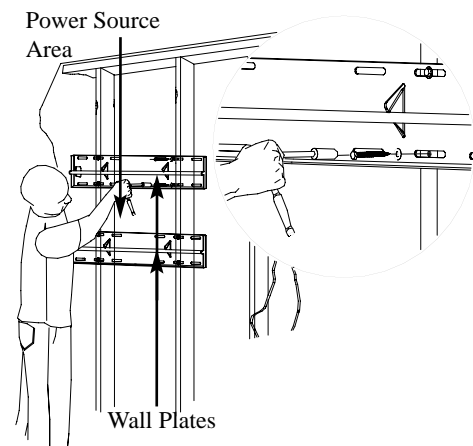

Figure 14
3. Secure the plate using the provided lag bolts (Figure 14).